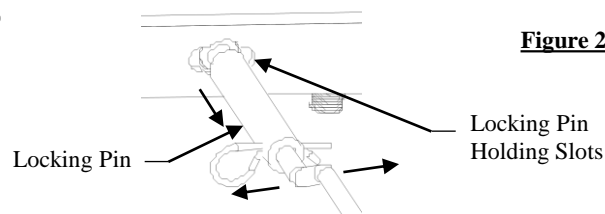
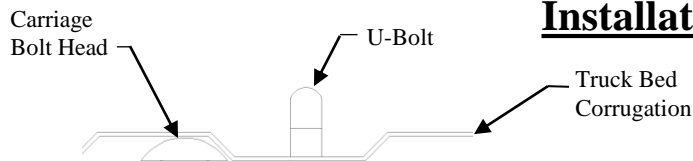

Figure 3
Figure 6
- 2B. After re-installing locking pin assembly, check for proper movement and holding slot engagement with the ball in place (see figure 3).
3. Install under bed supports with (4) vertical 5/8" bolts in rails.
- 5A. Use the (2) inner slots on forward side of head to drill 5/8" diameter holes up through truck bed. Make sure that holes go through the truck bed corrugation that is down so that head of carriage bolt is recessed below top of bed corrugation.
7. Using the U-Bolt slots as a guide, drill four 5/8" holes in the bed. These holes must be in a lower bed corrugations to limit the amount of U-bolt showing above the bed (see figure 6).